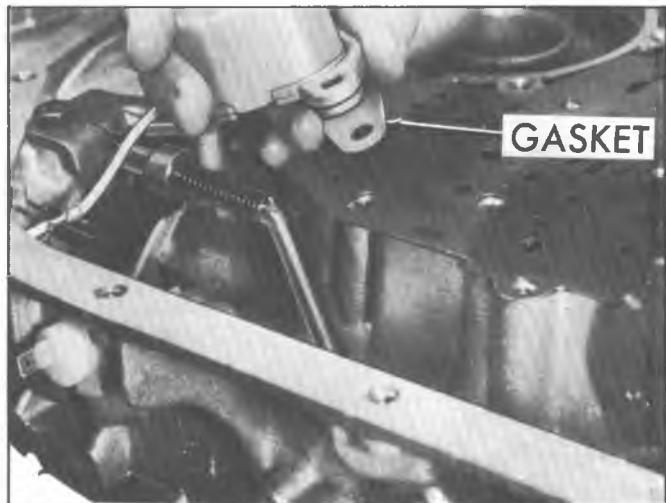

Fig. 7A-175C--Installing Detent Solenoid and Gasket
6. Install detent solenoid assembly with connector facing outer edge of case (Fig. 7A-175C). Do not tighten bolts at this time.